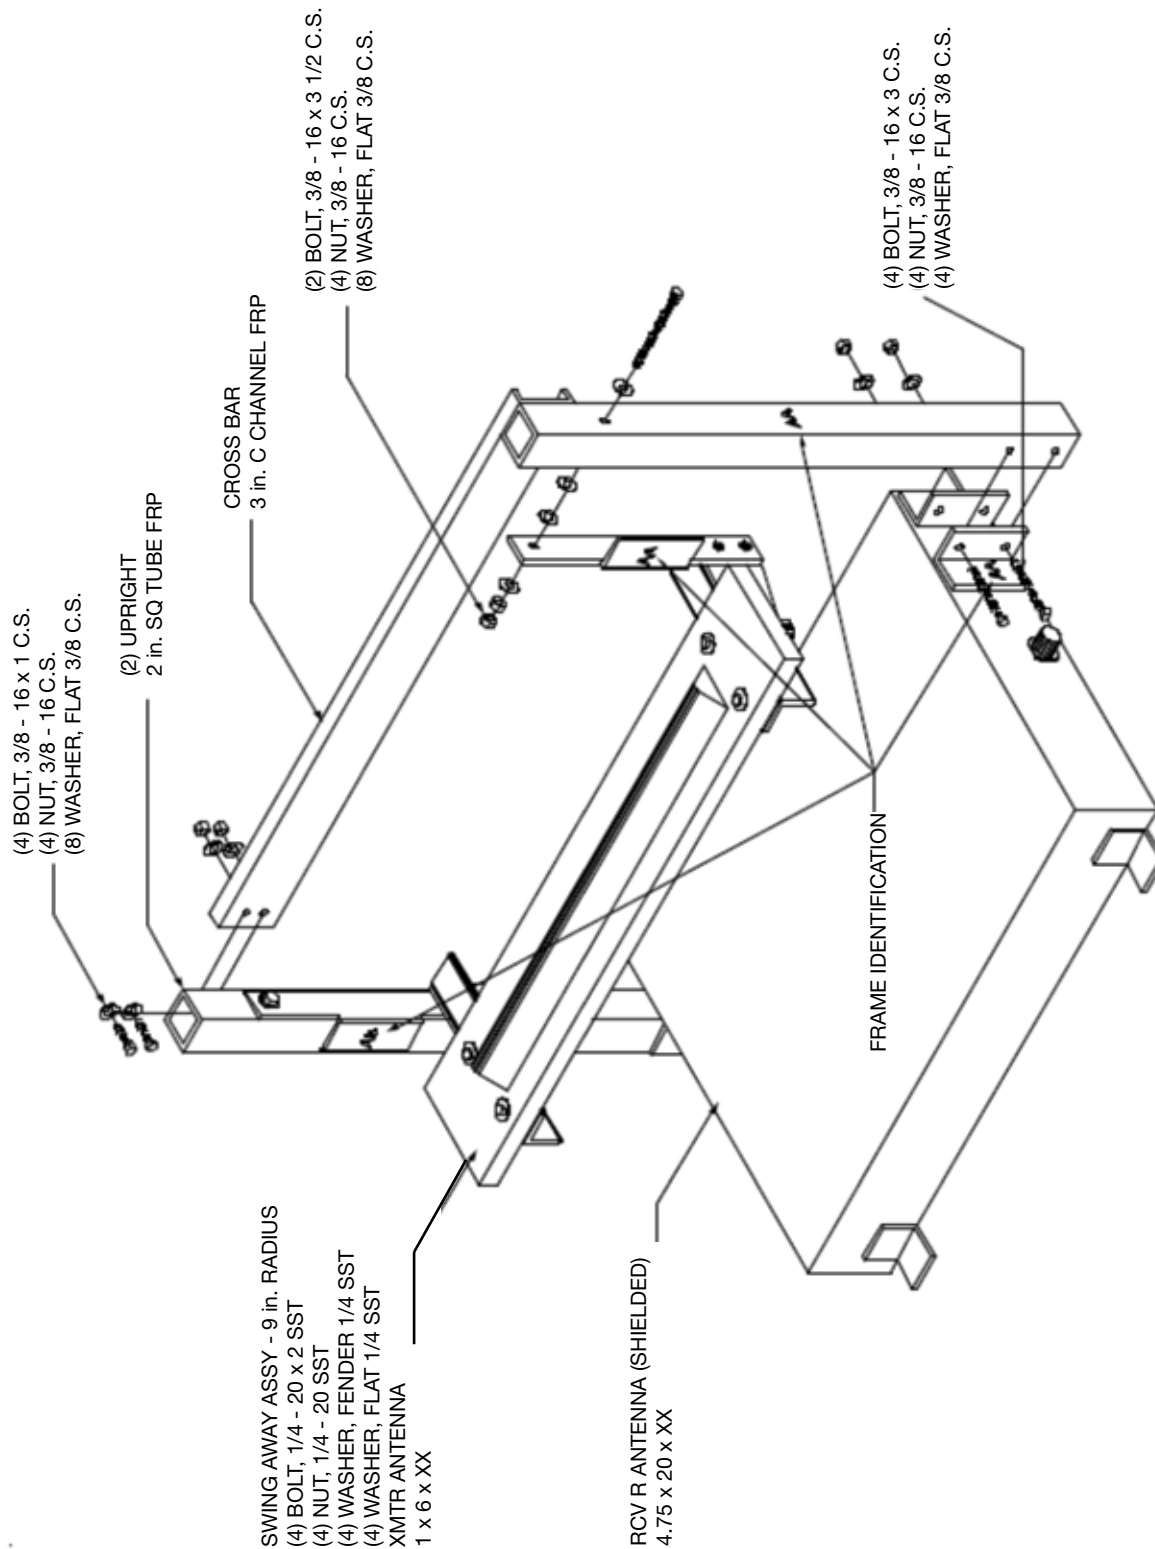

FIGURE 5
Note the material flow direction arrows, match marks and other identification on the Detector components before beginning work. Please refer to the Frame Assembly Diagram for Installation – Figure 5. (Or refer to custom drawings for custom detectors)
3. (See Figure 5) Assemble the top transmitter coil (with swing-away brackets attached if applicable) to the upright supports using the pre-drilled holes in the brackets/antennas/uprights. For standard swing away frames, use two 3-1/2" bolts with washers (provided). Each of the two bolts contains four flat washers and two nuts. Make sure two washers are located between the swing-away bracket and upright support to insure proper spacing and freedom of movement. The remaining washers are located at the end of each bolt. Tighten, by hand, each bolt with a nut until light drag is exerted on the swing-away bracket. Tighten the second nut against the first nut to serve as a jam nut. Verify that the swing-away brackets are free to move.